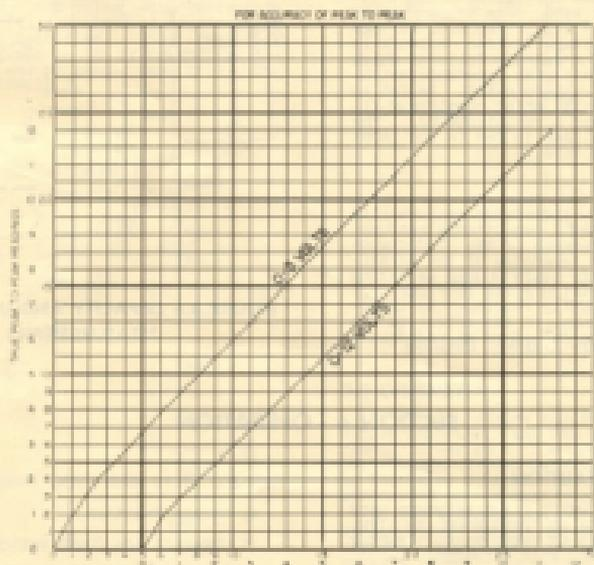

FIGURE 4-1 PEAK-TO-PEAK CHART
(1) Read the numerical value of the capacity directly from the scale. Find the associated impedance on the graph given in Figure 4.1. This value is XL in the formula below.
(2) Note the RANGE SELECTOR, whether it is on 1K - 100 - 1000, etc., ohms. This value is R in the formula below.
(3) Determine the reactance of the inductance by means of an ohmmeter. This value is RL in the same formula.
(4) Knowing RL and whether the selector switch was on 1K - 100 - 1000 etc., also knowing XL determines the inductive reactance XL from the formula below.
Therefore, the error due to the resistance is greater than 25%. Referring to the graph in Figure 4.1, we find that the impedance for a capacity reading of 0.8 MFD is 300 ohms. Substituting in the formula: